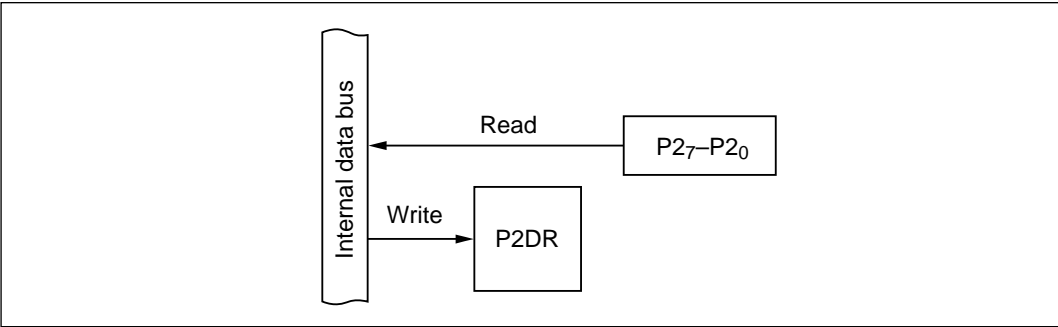

Figure 10-13 Input Port (Modes 2 and 7)
(2) Input Port (Modes 2 and 7): Figure 10-13 shows a block diagram illustrating the general-purpose input function. Table 10-9 indicates register read/write data. Values written in the port 2 data register (P2DR) have no effect on general-purpose input lines. When read, P2DR returns the value at the pin.